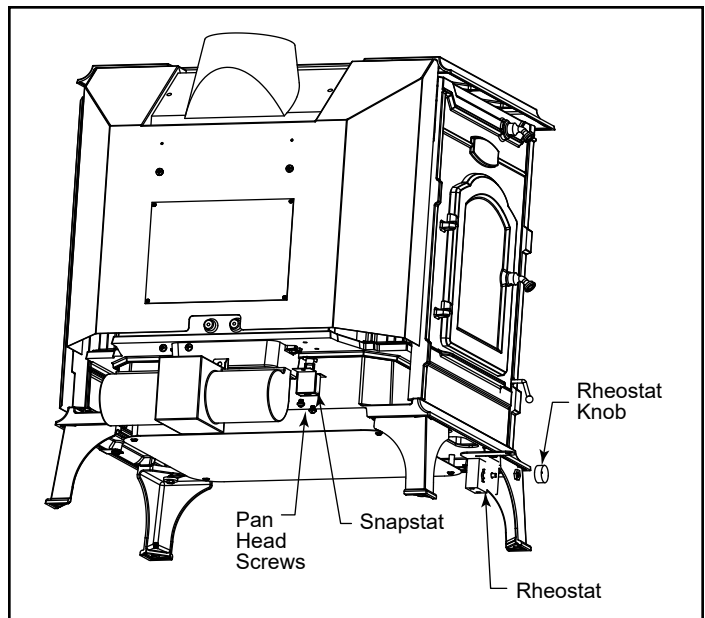

Figure 27 - Fan installation.
1. Secure the fan assembly to the inner back with two (2) 1/4-20 x 3/4" hex head screws and one (1) 1/4" star washer as shown in Figure 27.
2. Attach snapstat to the mounting holes on the underside of the bottom with two (2) 1/4-20 pan head screws.